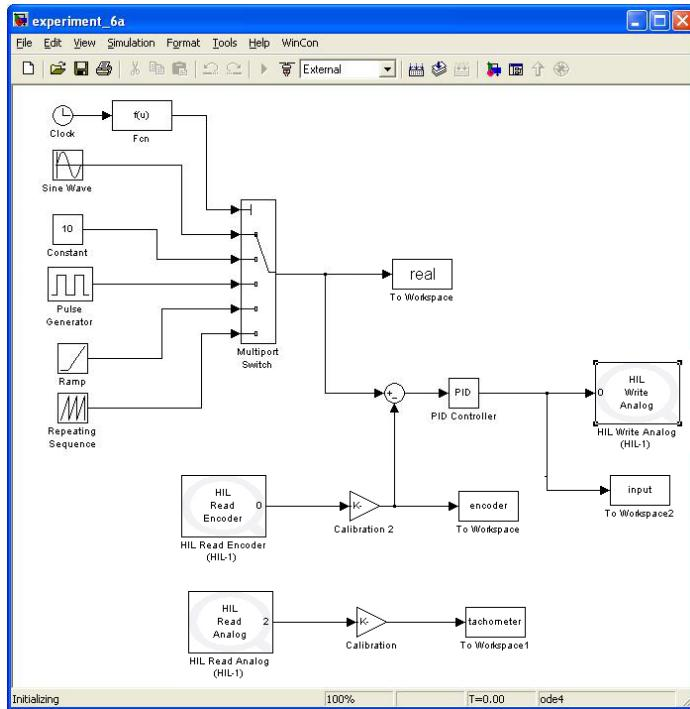

Figure 5.5: Simulink model for the implementation of multiple inputs and PID control
9. Change the reference angle trajectory to add more switching times within a period. To make things interesting, have the desired angle behave as four different functions on different intervals. This can be achieved by preparing the Simulink model shown in Figure 5.5. *You do not need to use the exact same functions as shown in the figure.* Pick four functions that you think would be interesting. In this model, a number of